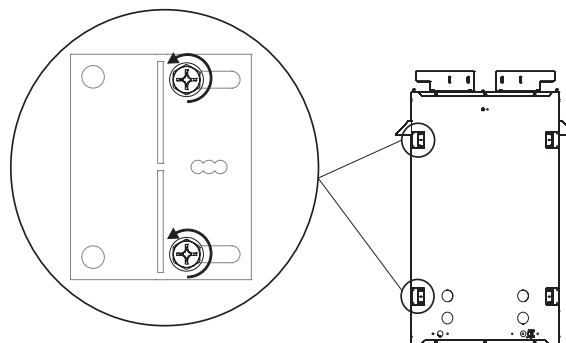

Figure 11
4. Loosen but do not remove the eight screws securing the nailing flanges to the firebox. **See Figure 11.**